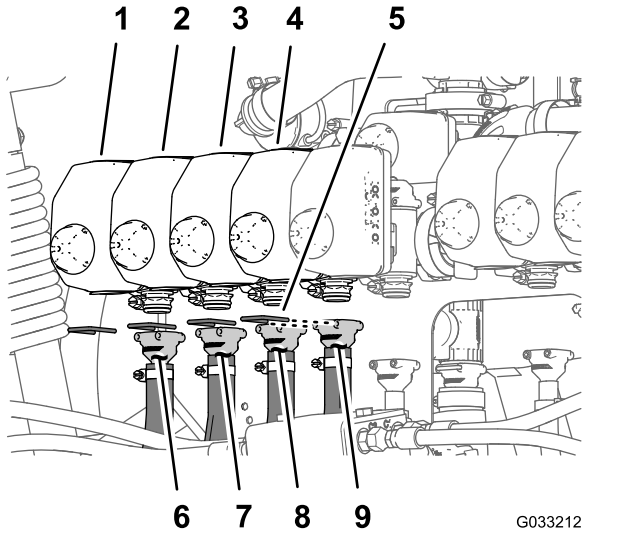
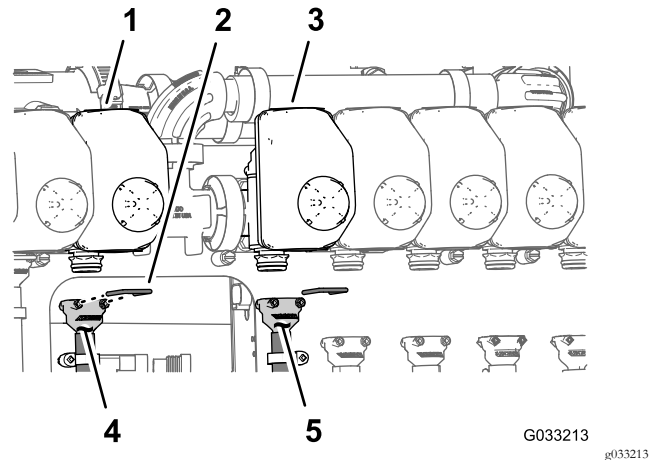

Figure 103
Figure 104
Note: Refer to Figure 103 in *Assembling the Hoses to Nozzle Valves 1 through 4* (page 47), Figure 104 in *Assembling the Hoses to Nozzle Valves 5 and 6* (page 47), and Figure 105 in *Assembling the Hoses to Nozzle Valves 7 through 10* (page 48) for the nozzle-valve positions.
1. Assemble the straight barbed fitting of a supply hose 279 cm (110 inches) onto the coupler of nozzle valve 1 (Figure 103).
2. Secure the barbed fitting to the coupler with a retainer (Figure 103).
3. Assemble the straight barbed fitting of a supply hose 234 cm (92 inches) onto the coupler of nozzle valve 2 (Figure 103).
4. Secure the barbed fitting to the coupler with a retainer (Figure 103).
5. Assemble the straight barbed fitting of a supply hose 188 cm (74 inches) onto the coupler of nozzle valve 3 (Figure 103).
6. Secure the barbed fitting to the coupler with a retainer (Figure 103).
7. Assemble the straight barbed fitting of a supply hose 188 cm (74 inches) onto the coupler of nozzle valve 4 (Figure 103).
8. Secure the barbed fitting to the coupler with a retainer (Figure 103).
1. Assemble the straight barbed fitting of a supply hose 81 cm (32 inches) onto the coupler of nozzle valve 5 (Figure 104).
2. Secure the barbed fitting to the coupler with a retainer (Figure 104).
3. Assemble the straight barbed fitting of a supply hose 81 cm (32 inches) onto the coupler of nozzle valve 6 (Figure 104).
4. Secure the barbed fitting to the coupler with a retainer (Figure 104).